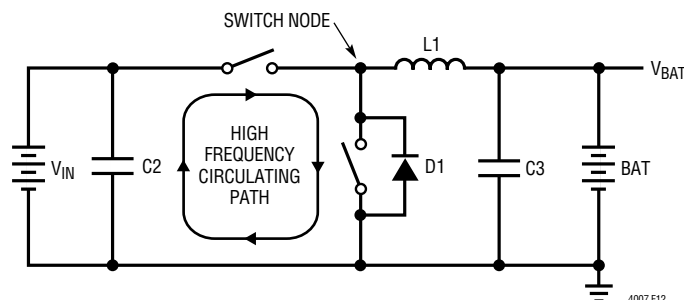

Figure 12. High Speed Switching Path
For maximum efficiency, the switch node rise and fall times should be minimized. To prevent magnetic and electrical field radiation and high frequency resonant problems, proper layout of the components connected to the IC is essential. (See Figure 12.) Here is a PCB layout priority list for proper layout. Layout the PCB using this specific order.
- For best current programming accuracy provide a Kelvin connection from RSENSE to CSP and BAT. See Figure 12 as an example.